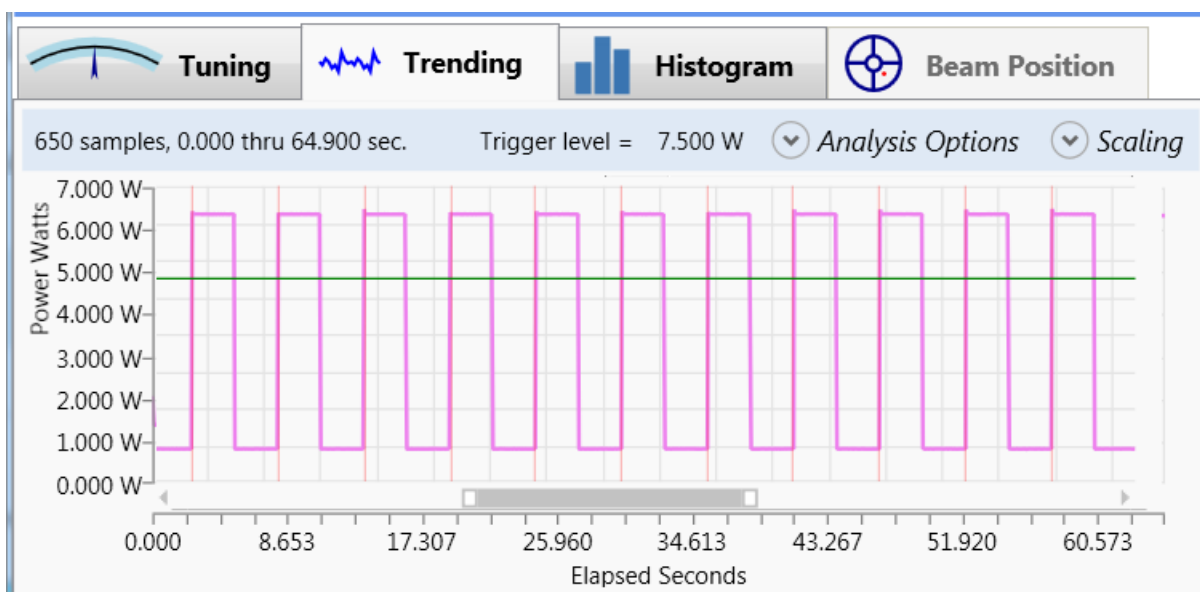

Figure 8-18. Display Trigger Markers
4. Confirm that each pulse has a trigger marker. This is represented by a **magenta** vertical line plotted at each trigger event, as shown in Figure 8-18.